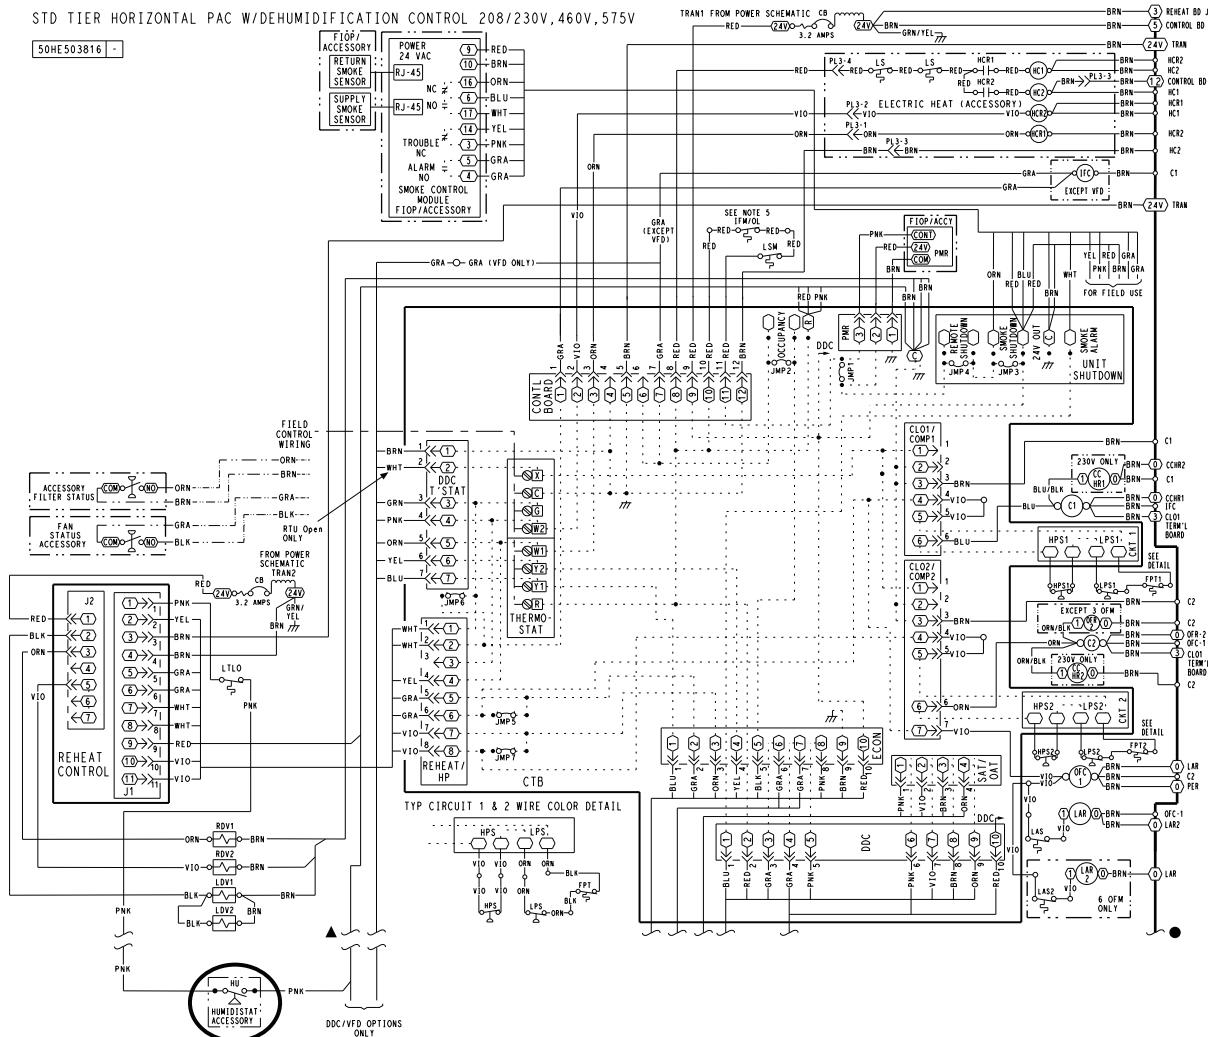

Fig. 52 — Typical Humidi-MiZer® Adaptive Dehumidification System Humidistat Wiring
3. Use wire nuts to connect humidistat cable to two PINK leads in the low-voltage wiring as shown in Fig. 52.